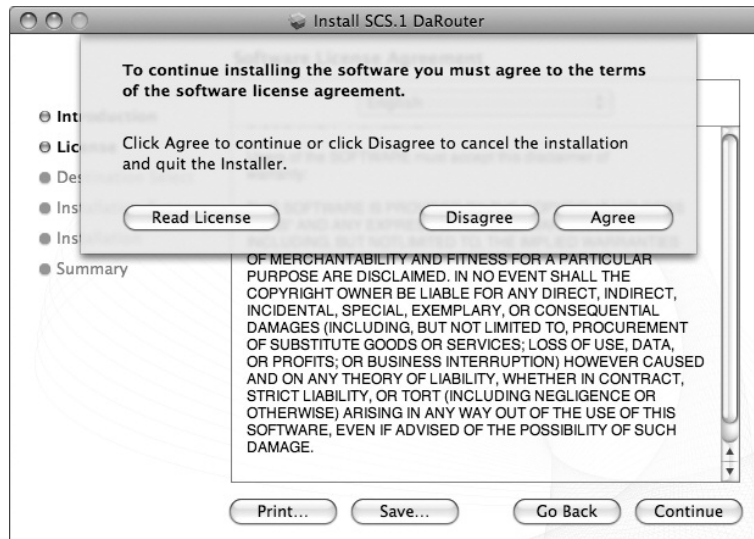

Figure 4.20
- Read the license agreement and click **Continue**. In the next dialog, click **Agree**. (Figure 4.20)